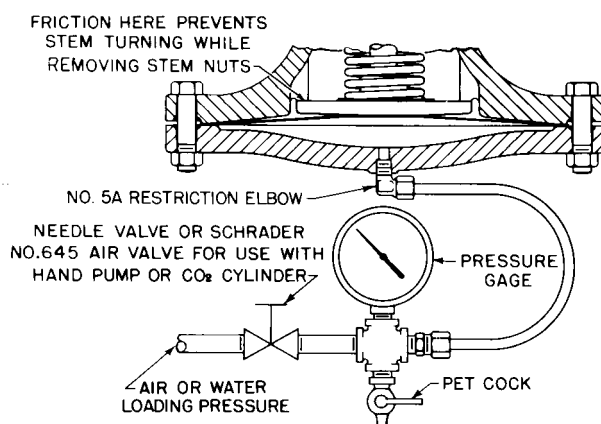

FIGURE 1
1. Remove blind flange nuts (2) and lift off blind flange (4).
2. Connect an adjustable supply of air or water pressure to the hood (21) (See Fig. 1). Apply 20 to 30 PSIG to lock the stem in the full open position.
3. Apply a penetrating lubricant (such as WD40) to the stem locknut (5). Remove the locknut.
4. Lift out the disc holder (6), disc (7) and balance piston (11). Be careful when lifting the piston through the seat ring (8) so that the piston o-ring (13) is not damaged.
6. Remove the diaphragm nuts (22) while supporting the hood (21). Lower the hood to permit the diaphragm (20), stem/pressure plate (14 & 18) and main spring (17) to be withdrawn.
7. If the seat ring (8) requires replacement, remove it from the body. A special wrench is required.
8. If the guide ring (12) requires replacement, the valve must be removed from the line and the seat ring removed first. A special wrench is required to remove the guide ring. The guide ring is extracted through the valve inlet.